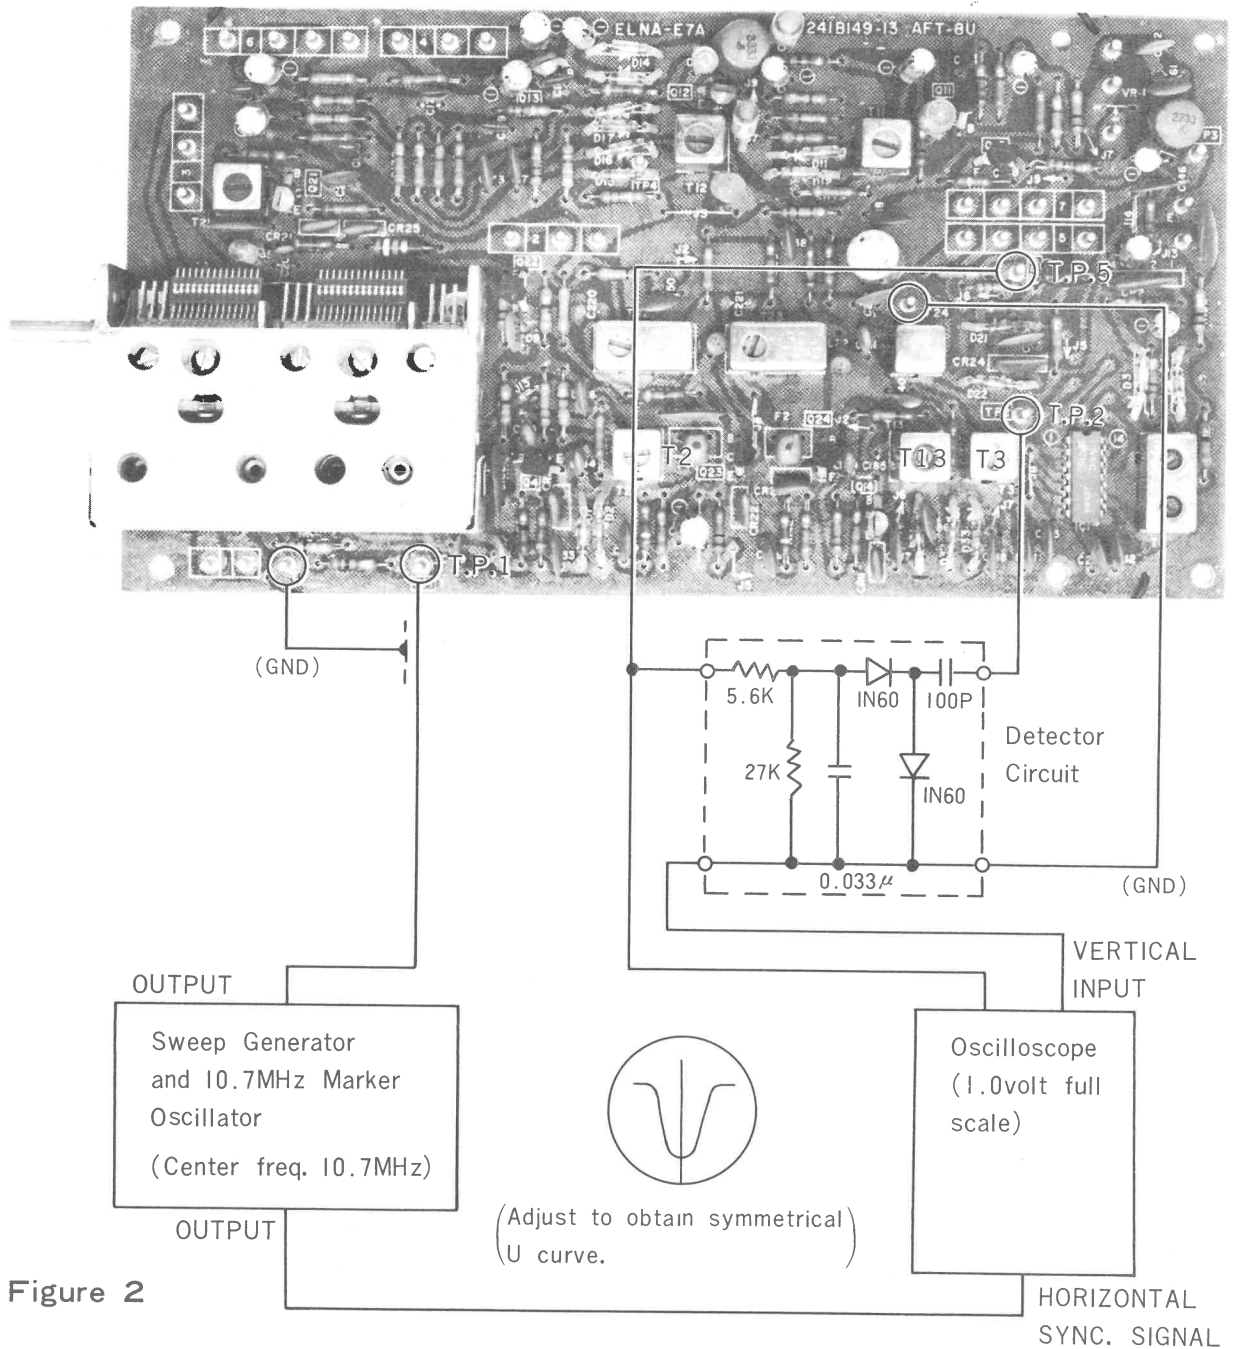

Figure 2
1. Connect oscilloscope input to IF output (Test Point 2) using detector circuit as shown in Figure 2.
- 2) Adjust each core of transformers (T 2, T 3) alternately to obtain symmetrical U curve and maximum gain on scope. See Figure 2.
- 3) Connect oscilloscope input to Test Point 5 (TP 5) without using detector circuit as shown in Figure 2.
4. Adjust to obtain symmetrical U curve and straight and sharp Z curve. (See Figure 2 and 4)